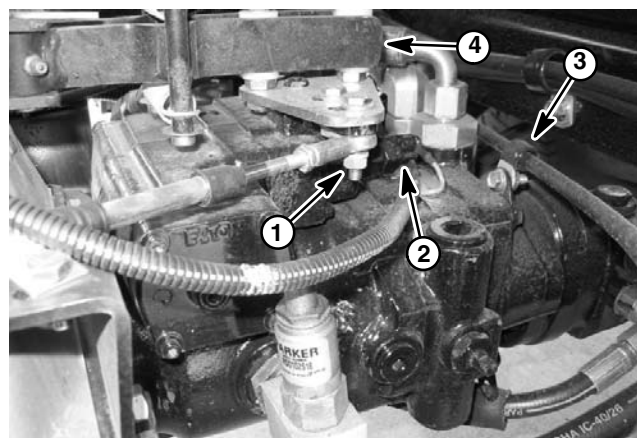
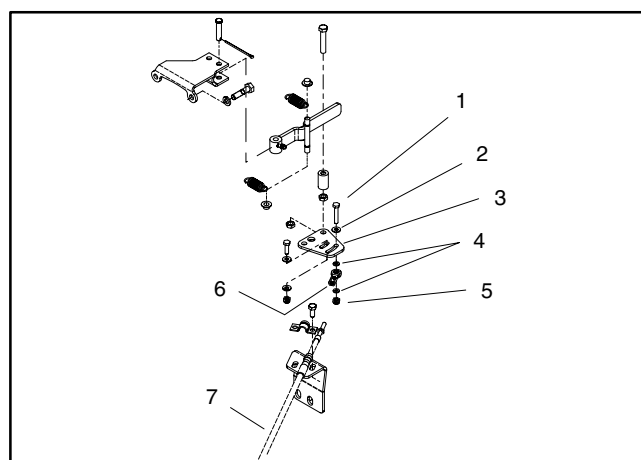

Figure 30
Figure 31
4. Remove traction cable ball joint from control plate on piston pump by removing lock nut (Fig. 30). Remove cap screw from control plate. Locate and retrieve three (3) flat washers (Fig. 31).
5. Disconnect two (2) wires from neutral switch on piston pump (Fig. 30).
6. Remove flange head screw and flange nut that secures R-clamp and right side brake cable to pump assembly (Fig. 30).
3. Carefully raise pump assembly and position it to the engine. Make sure that both bushings on control plate are between centering arms on rear of engine (Fig. 30).
4. Align spline teeth and slide piston pump input shaft into engine coupling spline. Support pump to prevent it from falling while installing two (2) cap screws, lock washers and flat washers to secure pump to engine bell housing.
5. Secure traction cable to control plate with cap screw, three (3) washers and lock nut (Fig. 30 and 31).
6. Connect two (2) wires to neutral switch on piston pump (Fig. 30).